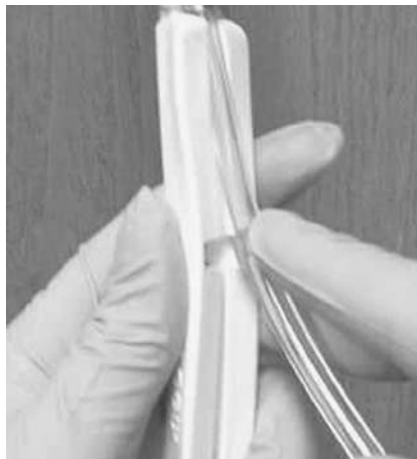

Figure 2-17. Proper Positioning of the Temperature Sensor Strip
6). Seat the balloon inflation tubing in the inflation tubing channel in the base of the RTU Plus handle. The locating key should snap into place within the handle key hole; if not, reorient/reassemble the device. The proper positioning of the temperature sensor strip in the disposable balloon is assured by the locating key/handle interaction (*Figure 2-17*).